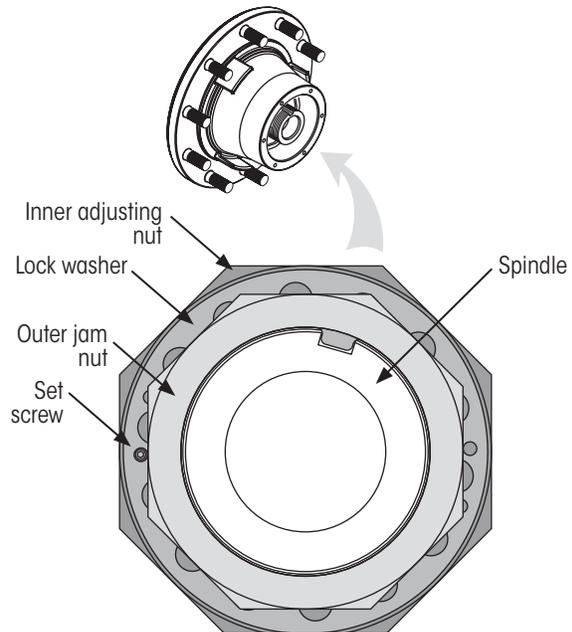
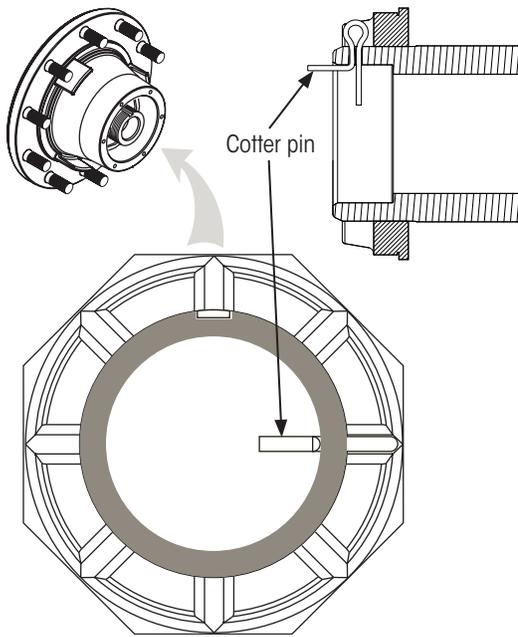

Figure 7: Three-piece nut system components
Figure 8: Castle spindle nut system (HP spindles only)
One of four spindle nut systems (Figure 7 through Figure 8) is used to secure a standard service hub to the spindle/axle:
- A. **Standard** three-or four-piece nut (Figure 7) -
- B. **Castle** spindle nut system, applies to cross drilled HP spindle only (Figure 8) -